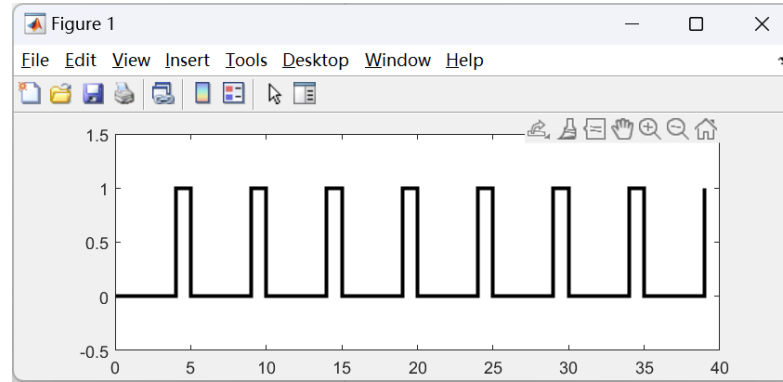

Figure 32
- 2) Increase the period of output\_enable to 5 (n if to be extended to n dimensions). The waveform of output\_enable after the change is shown in the Figure 32.